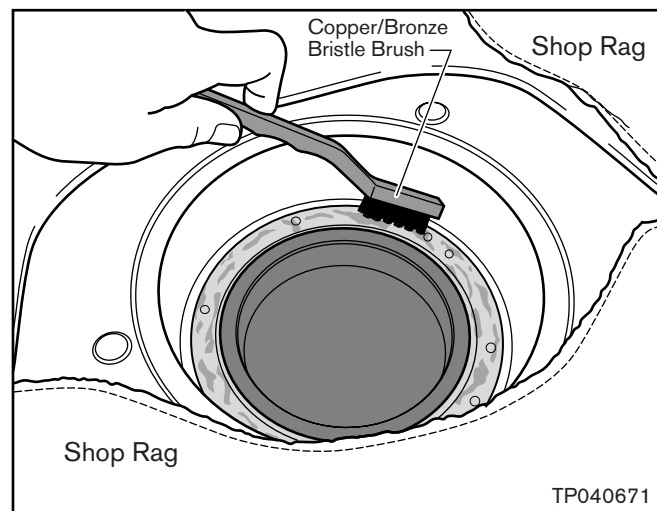

Figure 41
7. Completely clean the Fuel Tank Sending Unit Mounting Flange and O-Ring Groove by hand using Scotch Brite Pad 3M #051131-07447 or a copper/bronze bristle brush. See Figure 41.